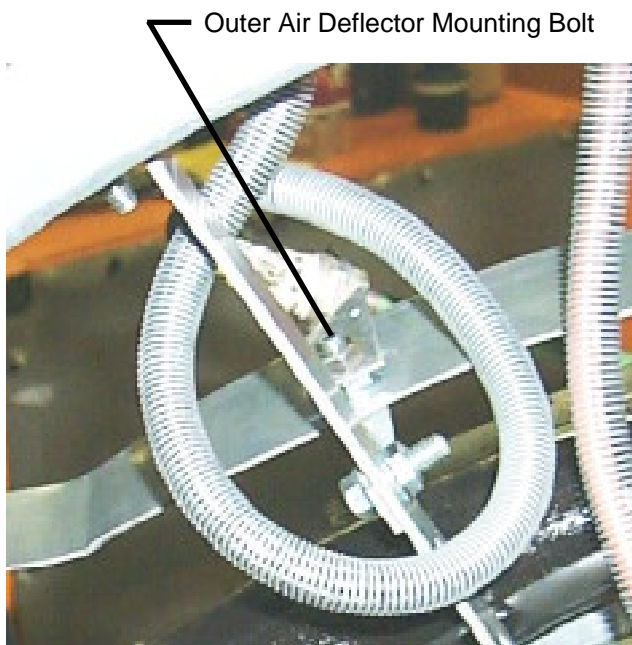

Figure 2. Use the Outer Air Deflector mounting bolt to mount the Flame Switch Bracket.
4. Re-route the wires for the probe by looping the spring/wire assembly around the burner mounting bracket as in Figure 2.